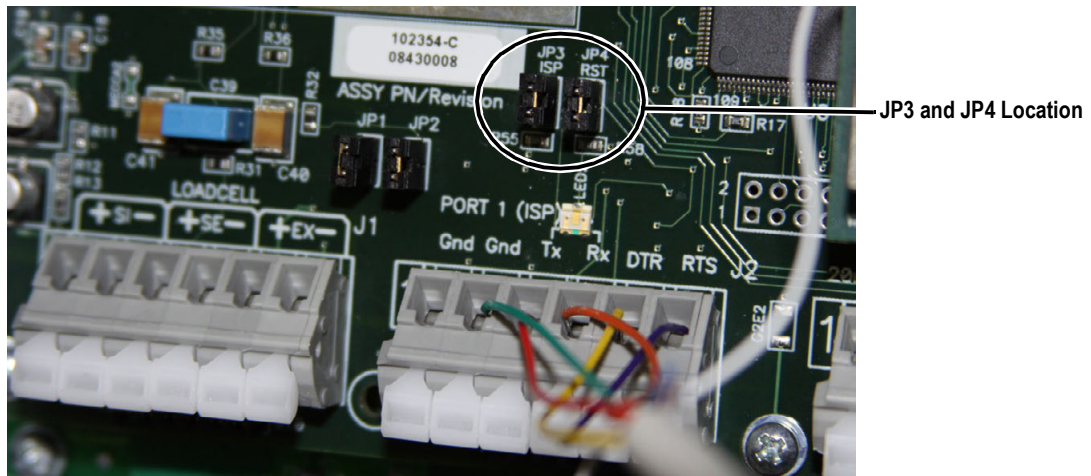

Figure 8-4. Jumpers Installed on JP3 and JP4
10. When complete, remove the jumpers shown in Figure 8-4 on page 78 and power up the indicator.